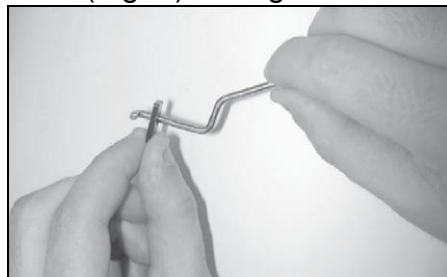

Figure 5
4. Insert the small end of the choke rod (Fig. 5) through the main body towards the top.